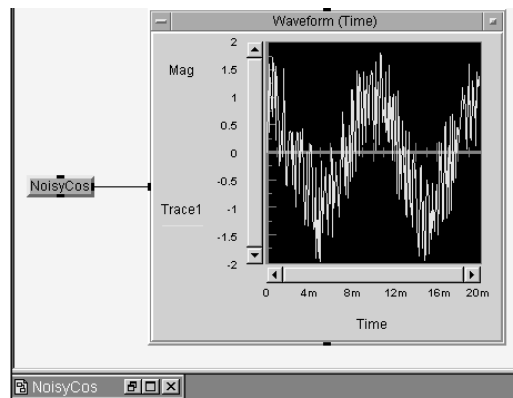

Figure 1.8. The NoisyCos(ine) program after running
24. Connect the NoisyCos data-output pin (X) to the Waveform (Time) data-input pin. (That pin is just above “Trace1”.)
25. Go to the Tool Bar; click the (right-facing arrow) Run button. A noisy waveform will appear on the oscilloscope. See Figure 1.8.